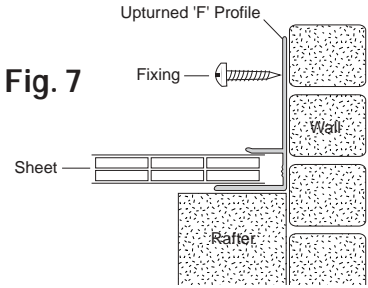

Fig. 7
Step 8: If butting up to a wall face, simply upturn the 'F' profile (Fig. 7).